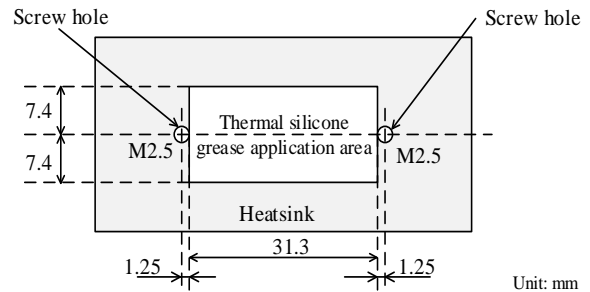

Figure 15-4. Reference Application Area for Thermal Silicone Grease
- Apply a silicone grease within the area indicated in Figure 15-4, below.